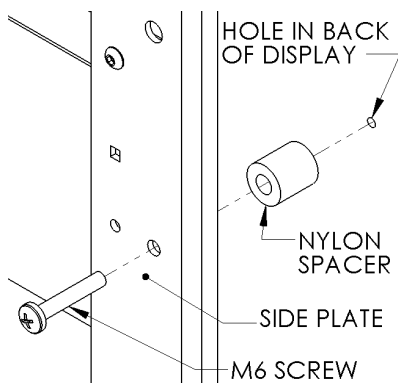
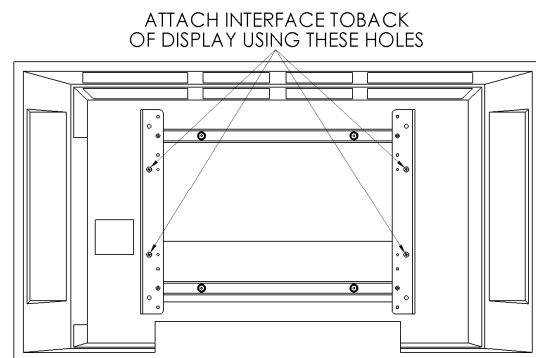

Figure 8
Figure 9
- Place Nylon spacers over mounting holes on back of screen. Attach mounting brackets to display using M6 screws (see Figures 8 & Figure 9).